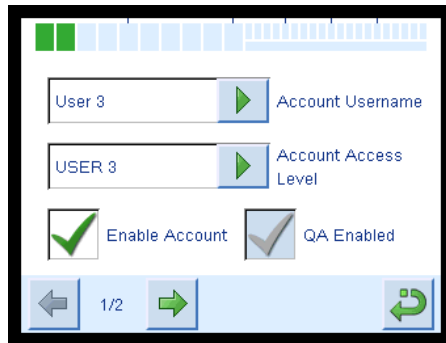

Figure 154:
2. Press the **Confirm Selection** key. Figure 154 will appear.